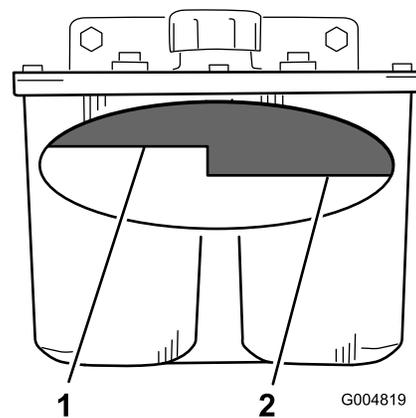

Figure 77
4. Clean the area around the filler neck of the hydraulic tank (Figure 77).
5. Remove the cap from the filler neck and look inside to check if there is fluid in the reservoir (Figure 77).
Note: The fluid level should be to the top of the hot level of the baffle, when the fluid is hot (Figure 77).